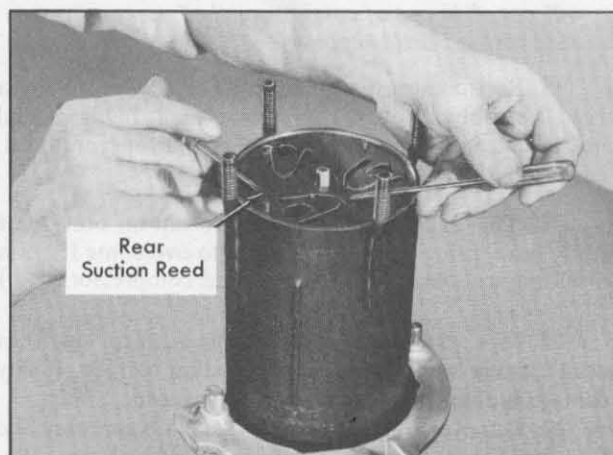

Fig. 1-76 Removing Rear Suction Reed
13. Using two small screwdrivers, carefully remove rear suction reed, Fig. 1-76. Do not pry up on horseshoe shaped reed valves.